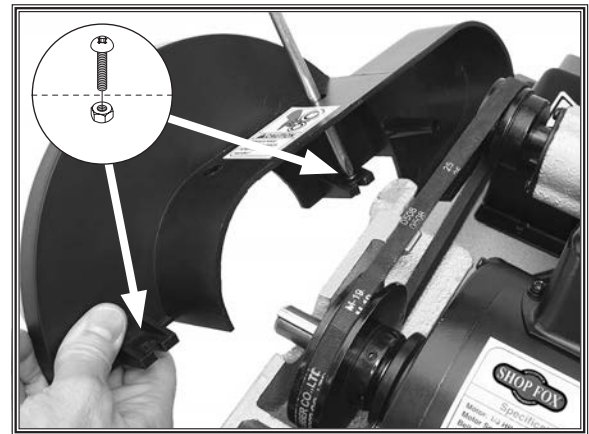

Figure 12. Holding V-belt cover mounting fastener in place with screwdriver.
- Insert (1) M4-.7 x 8 Phillips head screw and (1) 4mm flat washer into left inside mounting bracket of the V-belt safety cover (see **Figure 12**). Hold it in place with screwdriver as you slide cover over V-belt and tighten fastener into cast-iron disc guard.
- Secure right side of V-belt cover with (1) M4-.7 x 8 Phillips head screw and 4mm flat washer.